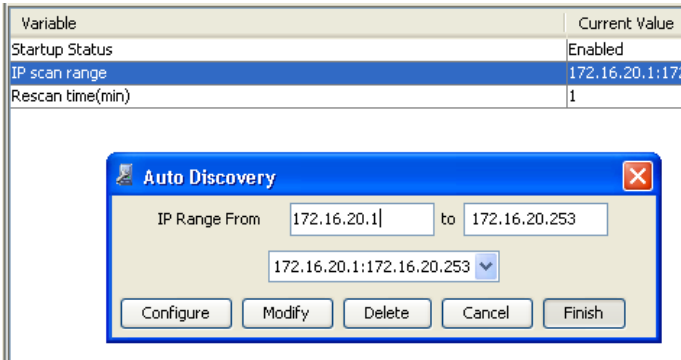

Fig. 14.3 Auto Discovery
3. Select the Auto Discovery option from the Module Name drop-down box. (See *Figure 14.3*)